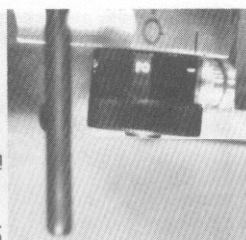

Figure 19
4. Set the spacing cam to the #1 position as indicated in the Chicago depth chart. This is the position to make the standard cuts. Push the slide block firmly forward against the stop screw and lift the locking arm upward. This locks the slide block in place. See Figure 19.